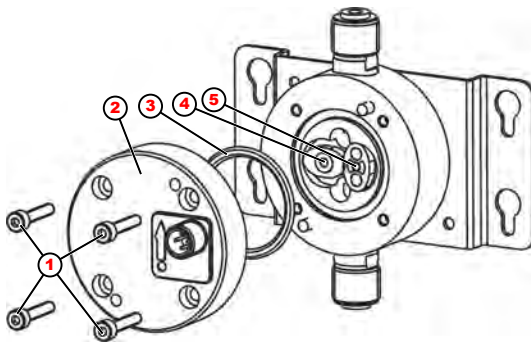

Fig. 21: Servicing
- 1.** ➤ Unscrew the 4 screws on the oval gear meter (Fig. 21, pos. 1).
- 2.** ➤ Remove the cover (Fig. 21, pos. 2).
- 3.** ➤ Remove the two oval gear wheels (Fig. 21, pos. 4 + pos. 5) and clean or replace.
We strongly recommend that you replace the o-ring seal (Fig. 21, pos. 3) between the cover and housing.